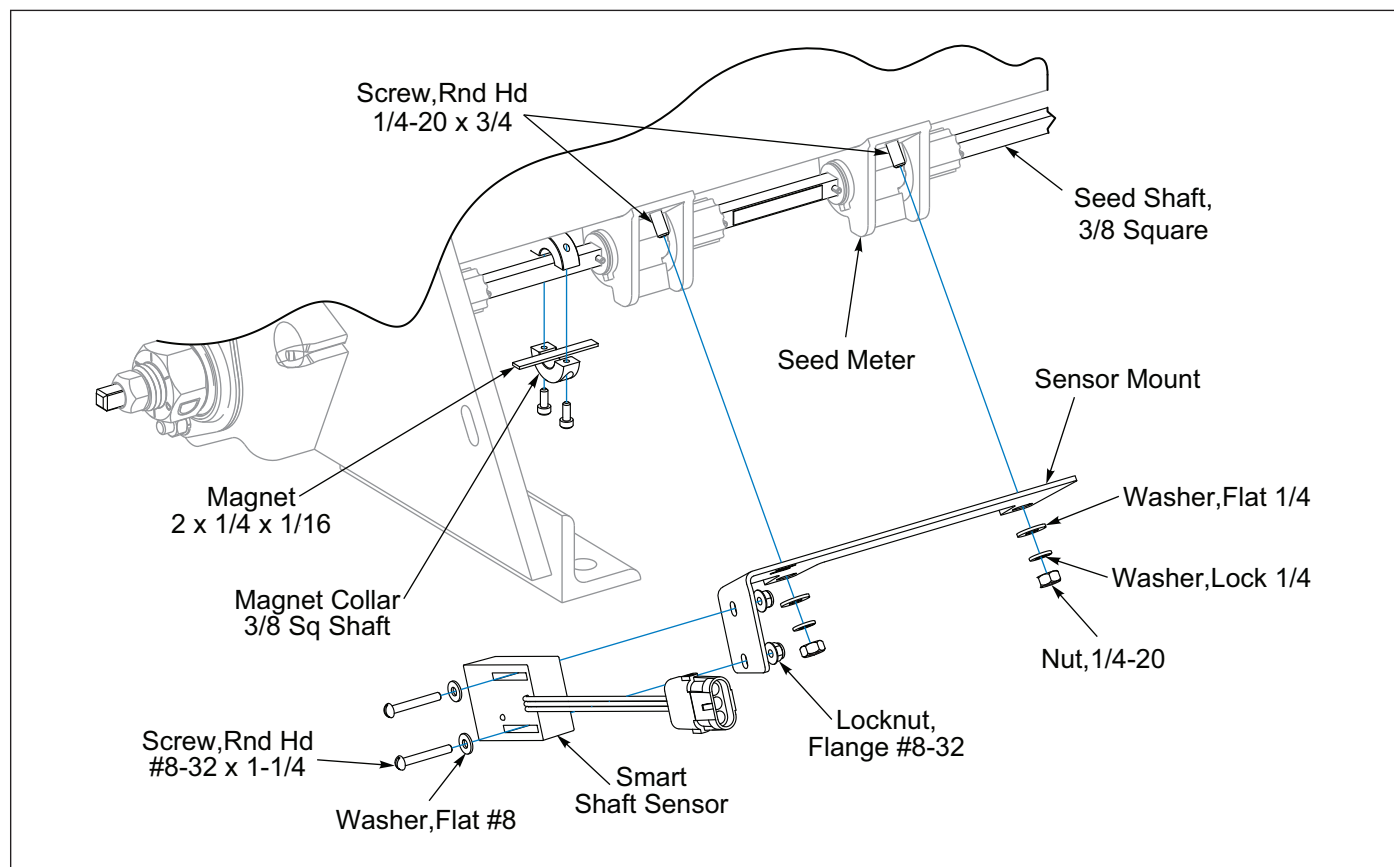

Figure 2-27: Brillion Elite Mini Monitor - Front Seed Box Seed Shaft Sensor
3. Front RH side Seed Box between the 1st and 2nd Seed Meters, place 2 x 1/4 x 1/16 Magnet on the Seed Shaft. Secure with Magnet Collar. See Figure 2-27. Remove the 2nd and 3rd Seed Meter front Round Head Machine Screws that mounts the Seed Meter to the Seed Box and replace them with 1/4-20 x 3/4 Round Head Machine Screws. Install the Sensor Mount on the 1/4-20 x 3/4 Machine Screws. Secure with Flat Washers, Lock Washers and Nuts.